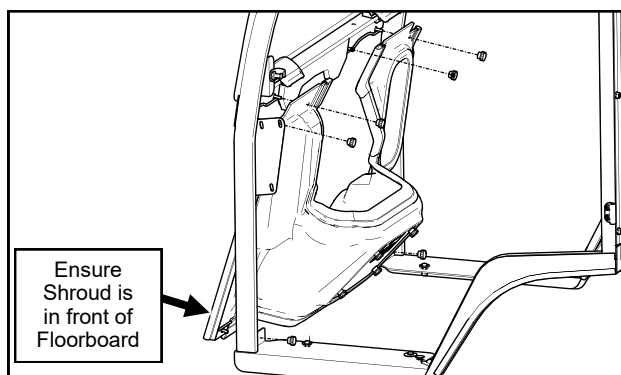

Fig. 16.1a (Radiator Shroud Installation)
- 16.1 With assistance, install the Radiator Shroud as shown from the inside of the cab. See Fig. 16.1a and 16.1b. Make sure the radiator shroud is on the outside of the flanges at the front of the cab floorboards, with the threaded studs through the holes in the floorboards.
**16.2** Attach the Radiator Shroud to the cab with Thumb Nuts: one at each floorboard and two on each side of the cowl. See Fig. 16.1a.